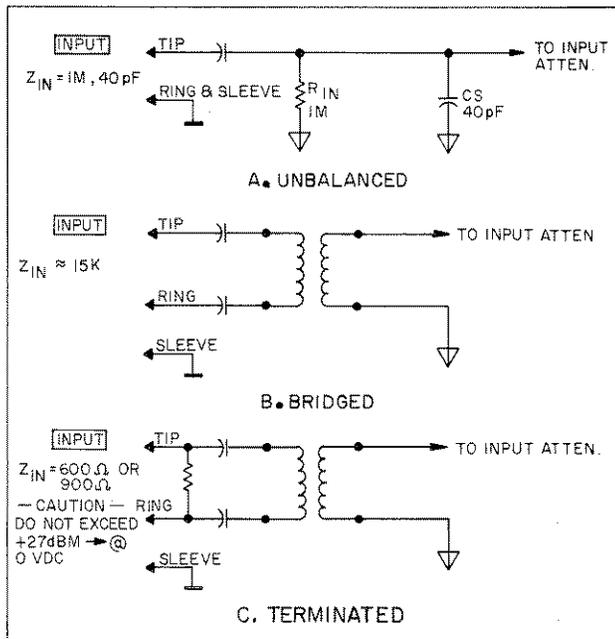

Figure 3-22. Input Configurations (3581C).
**3-158. Selectable Input Configurations.** The 3581C has three selectable input configurations: Unbalanced, Balanced Bridged and Balanced Terminated. The selection is made using the front panel slide switch. The three input configurations are illustrated in Figure 3-22.